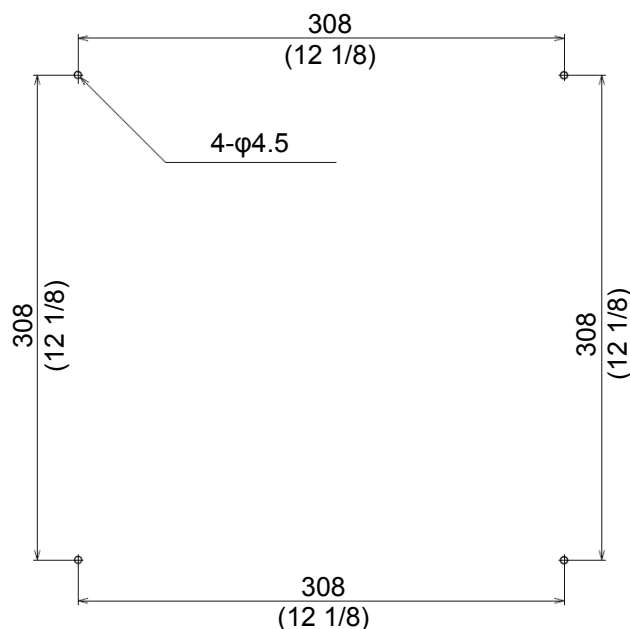

Fig. 2.1 Position of installation hole of Processor unit
- (1) Please determine the place where the Processor unit will be mounted with enough space for the maintenance.
- (2) Make 4 holes at the location to be installed (See Fig. 2.1)
- (3) Install the Processor unit in the installing location (installation hole) and fix it with 4 tapping screws (4mm) (M4 or pan-head). (Prepare 4mm screws suitable for thickness of installing location.)